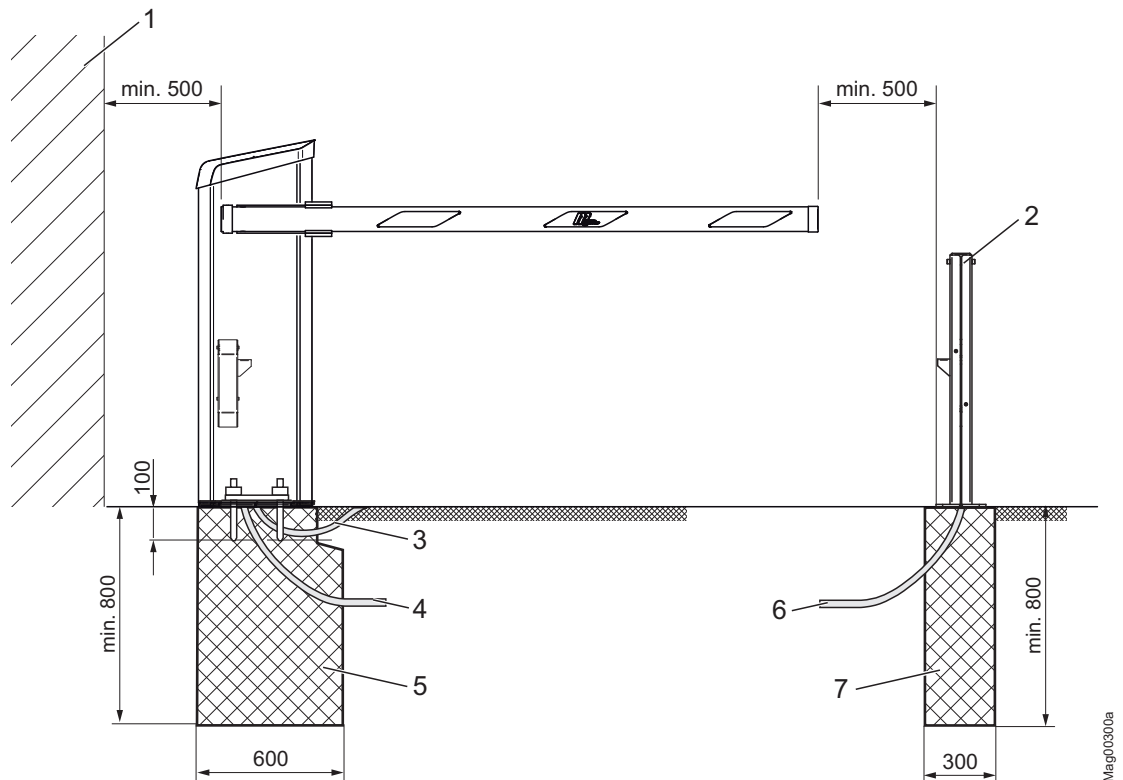
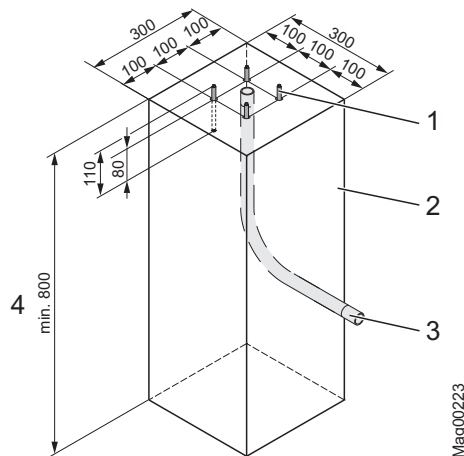

Fig. 10: Assembly boom system (dimensions in mm)
Fig. 14: Foundation plan for light barrier post (dimensions in mm)
<p>Danger of crushing and shearing if the safety distance between the barrier boom and other objects is too low! A closing or opening barrier boom can cause severe injuries from crushing if the safety distance to other objects is too low!</p> <ul style="list-style-type: none"> – Keep a safety distance of at least 500 mm between the barrier boom and other objects, such as walls, masonry or houses. → See page 23, chapter 2.8. – Assemble and install barrier system according to Fig. 10.
- Keep a safety distance of at least 500 mm between the tip of the barrier boom and other objects, such as walls, masonry or houses. → See page 41, Fig. 10.
→ See page 41, Fig. 10 and page 43, Fig. 12.
→ See page 41, Fig. 10.
1. Dig foundation hole pursuant to Fig. 10 and Fig. 14.
2. Place empty conduit pursuant to Fig. 14 in the foundation hole.
4. Fill concrete foundation pursuant to Fig. 14.
1. Cut a 50 mm deep groove into the surface or asphalt using a cutting disc. The groove must be equally deep at every point. According to Fig. 14 the corners of the groove must be cut in a 45° angle.